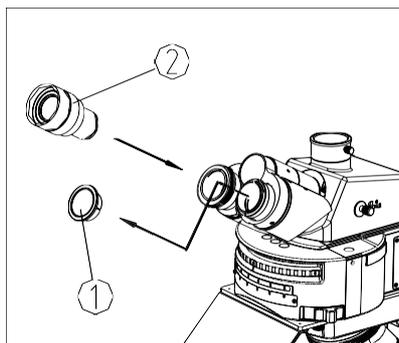

Fig. 11
- (1) Take down the cover of eyepiece tube ①.
- (2) Insert the eyepiece ② into the eyepiece tube, until touch the bottom. (See Fig. 11)